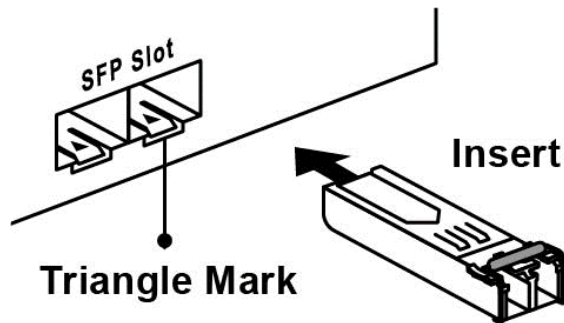
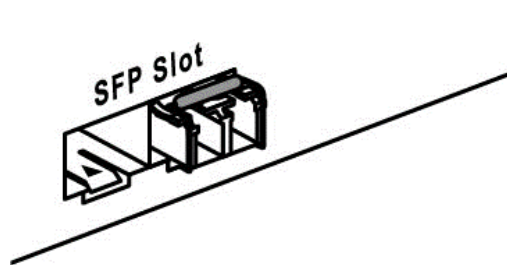

Figure 2.10: Transceiver to the SFP Module
Figure 2.11: Transceiver Inserted
Step 1. Insert the SFP transceiver module into the SFP slot as shown below in Figure 2.10. Notice that the triangle mark is at the bottom of the SFP slot. Figure 2.11 shows SFP transceiver module was inserted.